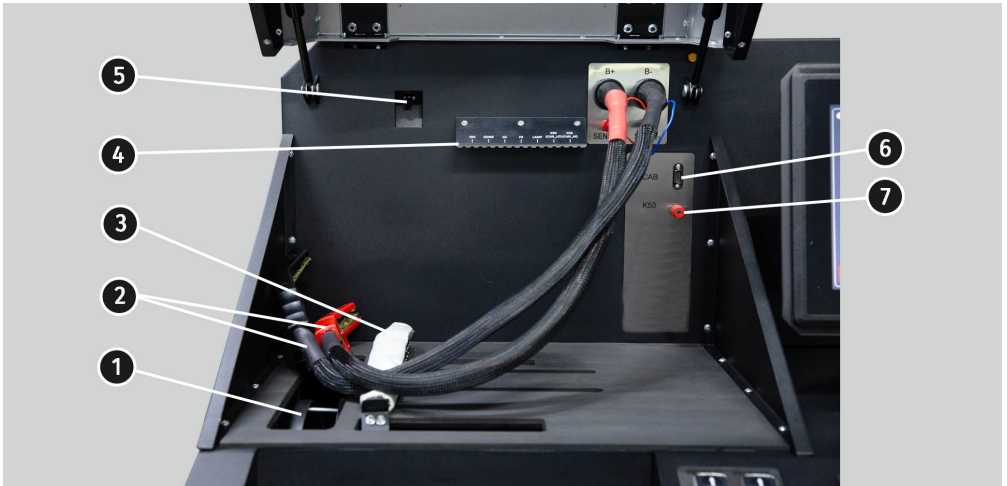

Figure 2. Work platform of the bench
Work Platform (Fig. 2) includes the following elements:
For convenient usage of the diagnostic cable, it's recommended to put the alligator clips onto the bracket (ref. 4, fig.2).